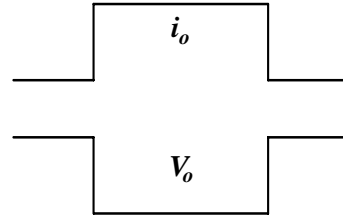
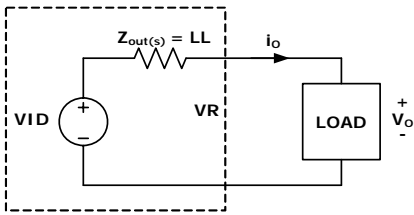

FIGURE 14. DESIRED LOAD TRANSIENT RESPONSE WAVEFORMS
FIGURE 20. VOLTAGE REGULATOR EQUIVALENT
Assuming the compensator design is correct, Figure 14 shows the expected load transient response waveforms if  $C_n$  is correctly selected. When the load current  $I_{core}$  has a square change, the output voltage  $V_{core}$  also has a square response.
Figure 14 shows the desired load transient response waveforms. Figure 20 shows the equivalent circuit of a voltage regulator (VR) with the droop function. A VR is equivalent to a voltage source (= VID) and output impedance  $Z_{out}(s)$ . If  $Z_{out}(s)$  is equal to the load line slope LL, i.e. constant output impedance, in the entire frequency range,  $V_o$  will have square response when  $I_o$  has a square change.